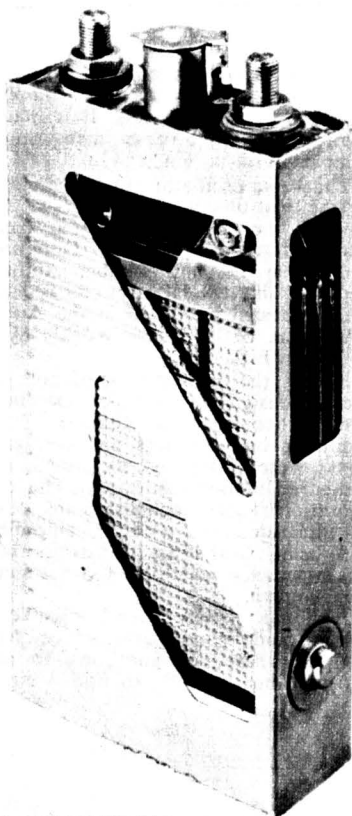

Figure 18. Photograph of cut-away nickel-cadmium cell.
**NICKEL - CADMIUM BATTERIES:** Construction of the nickel-cadmium battery (figure 18) is similar to that of the nickel-iron battery except that: